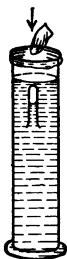

FIG. 61.
68. The Cartesian Diver. By careful adjustment it is possible to put into a small vial just enough water so that the slightest downward force applied to it, as it floats mouth downward in a cylinder of water, will submerge it. See Fig. 61. If a piece of sheet rubber is stretched over the cylinder and pressure applied to it gradually, the vial slowly descends, rising again when the pressure is removed. The Cartesian diver, or bottle imp, illustrates several principles of physics. Before the pressure is applied, the specific weight of the vial and contents is slightly less than that of water. The pressure applied is transmitted equally in all directions (Pascal's law), the air in the vial is compressed, and a little more water enters the vial, thus increasing its specific weight until it slowly sinks. When the pressure is removed, the expansion of the air in the vial forces out some of the water and the vial rises. The *diver* is an application of Pascal's law, Archimedes' principle, the laws of flotation, and the compressibility and expansibility of air (Boyle's law). The usual type is a toy devised by Descartes. It consists of a hollow imp-shaped figure with a small opening in the end of his tail for the entrance and exit of the water which changes his specific weight.